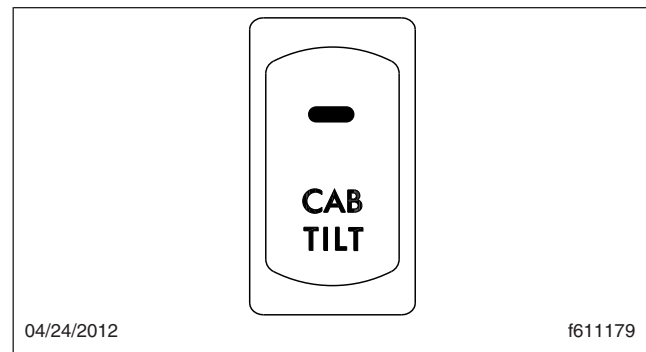

Fig. 2.12, Cab Tilt Switch
2. Secure all loose articles in the cab and bunk, then activate the tilt system power switch on the dash. See Fig. 2.12.